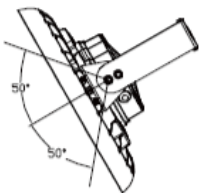

Fig. 3
- Align the luminaire with the holes on the sides of the bracket then adjust to the desired angle using the screws and nuts attaching the main body to the bracket (see Fig. 3)